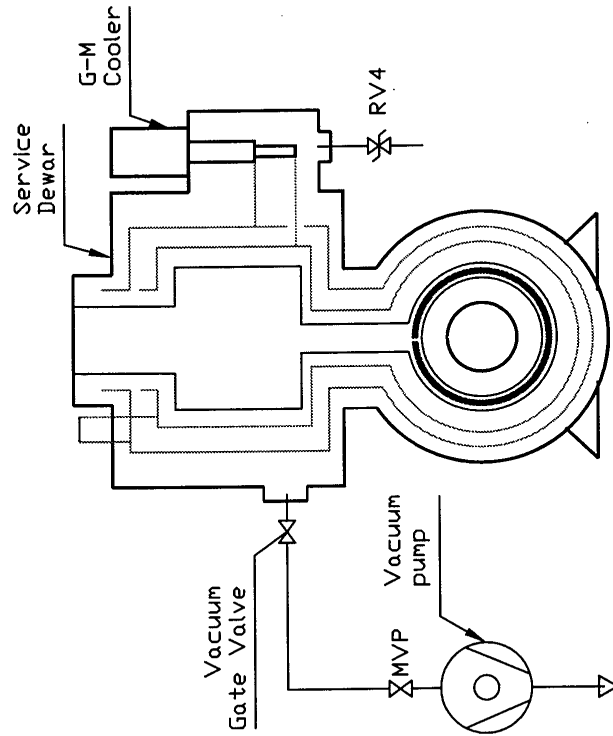

Figure 2
- 5.3.1 Connect LN2 dewar to helium vessel of service dewar with LN2 transfer hose according to Fig. 2.
8.3 Figure 2. Schematic for LN2 pre-cooling of SC magnet.